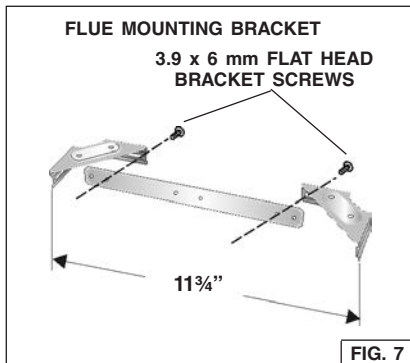

FIG. 7
1. Assemble the flue mounting bracket, adjusting outside width as shown. Fig. 7.